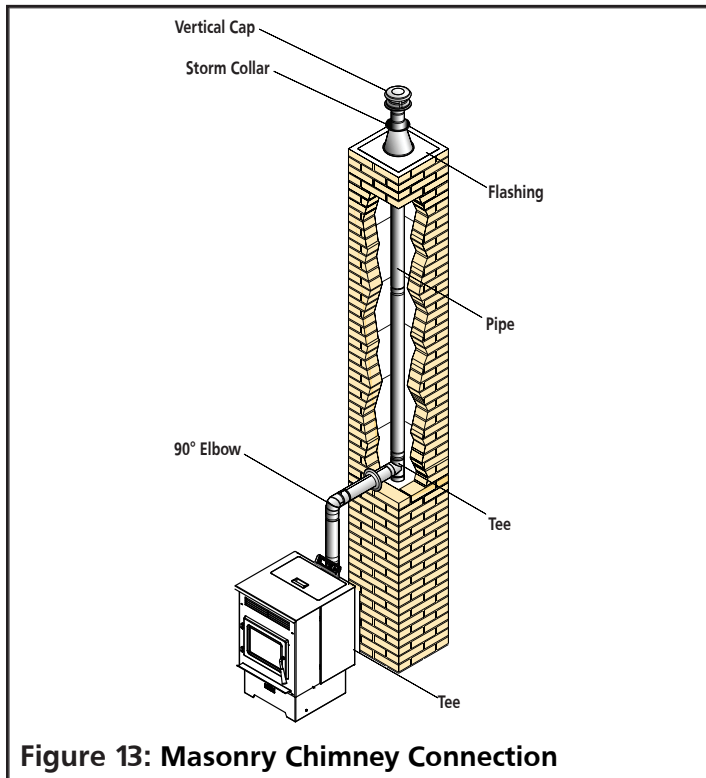

Figure 13: Masonry Chimney Connection
2. The chimney connection must not be obstructed by the chimney connector pipes, such as the Figure 13 below illustrates.